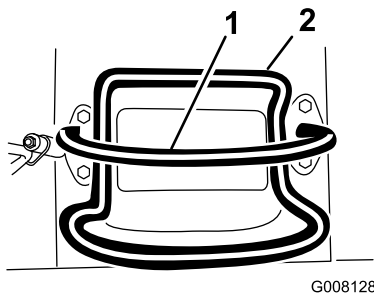
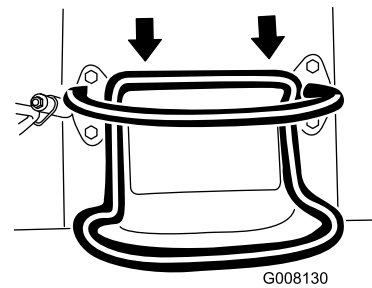

Figure 6
Figure 8
- To move rearward, move the traction control rearward (Figure 8). **When reversing, look behind for obstructions and keep your hands on the reference bar (Figure 6).**
- To stop, release the traction control (Figure 6).